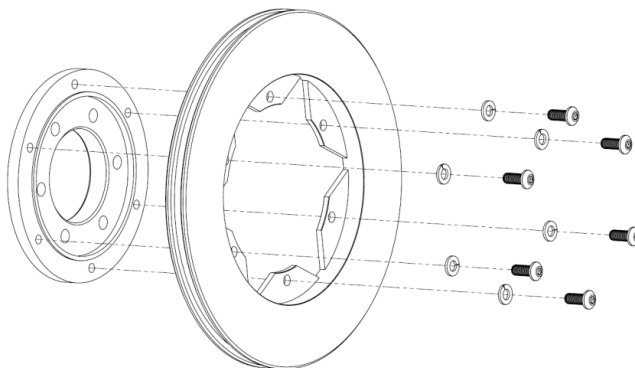

Figure 6. Use thread locker when assembling the 6 bolts and washers to each rotor sub-assembly.
- 8) Assemble the rotors to the rotor adapter (i.e. rotor “hat”) using the supplied 5/16 x 3/4” button head screws and the 5/16 split lock washers. Each rotor needs 6 screws and washers as shown in Figure 6. Apply a few drops of thread locker on to the threads of the screw during assembly. **Tighten the bolts to 180 in lbs.**